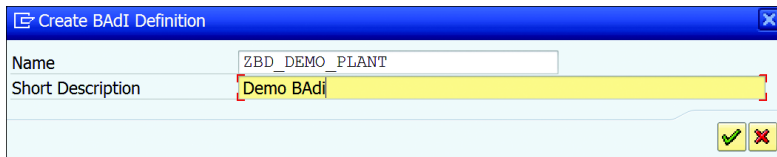

Figure 20.32 Create BAdI Definition
2. This will open a dialog box in which you can provide the NAME for the BAdI definition and a SHORT DESCRIPTION. Click the green checkmark to continue (see Figure 20.32).